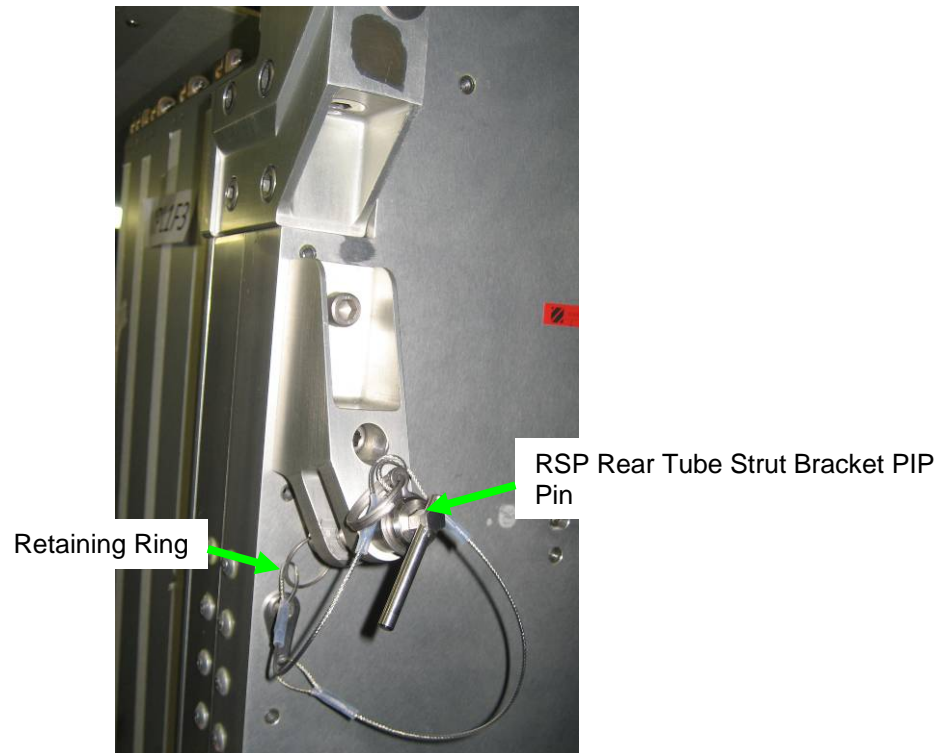

Figure 2. - Top RSP Rear Tube Strut Bracket.
- 2.4 Remove retaining rings from PIP pins on RSP Rear Tube Struts (two, one per PIP pin). Refer to Figure 2.
- 2.5 Remove RSP Rear Tube Strut, PIP pins (two). Temporarily stow. Refer to Figure 2.
√PIP Pins install easily (not forced), with some free wiggle. Refer to Figure 2.
4.3 Install retaining rings on PIP pins on RSP Rear Tube Struts (two, one per PIP pin). Refer to Figure 2.